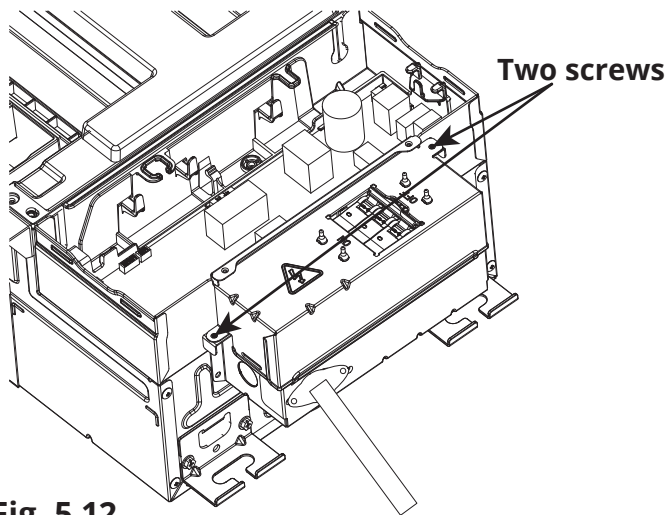

Fig. 5.12
5. Reinstall the circuit breaker cover with the two screws you previously removed (See Fig. 5.12).